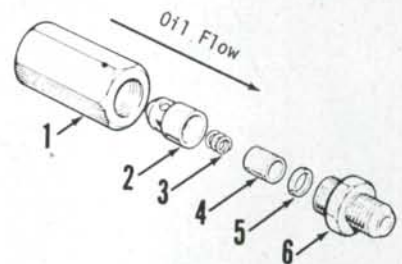

Fig. 309—Exploded view of pressure maintaining valve used on some models equipped with independent pto and eight speed transmission.
To check pressure maintaining valve operating pressure, install a 4000 kPa (600 psi) hydraulic test gage into oil cooler pressure line using a tee fitting. Operate engine at 1000 rpm and note pressure gage reading. The pressure at which valve regulates is stamped on the valve body. Pressure maintaining valve can be removed after removing front grille and hood and disconnecting hydraulic lines from the valve. Unscrew adapter fitting (6—Fig. 309) and remove sleeve (4), spring (3) and poppet (2). Inspect poppet and seat and renew if necessary.